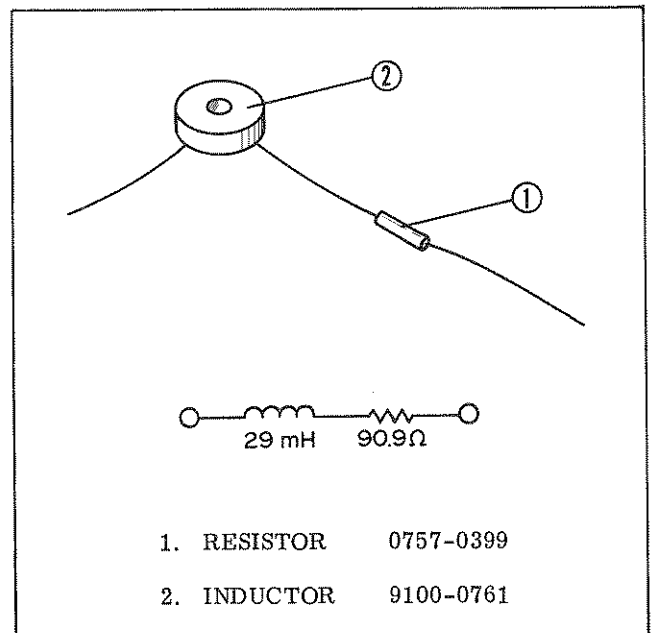

Figure 5-3.  $(90\Omega + j180\Omega)$  Impedance
- e. Set the range to  $100\Omega$  and measure an impedance of  $(R + j\omega L)$  as shown in Figure 5-3, where R should be calibrated by DC bridge and the reactance value twice that of R.